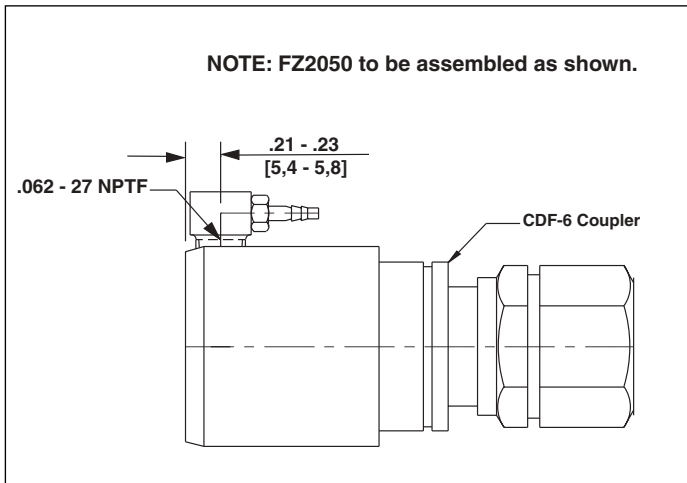

Figure 7
2. In applications where machining chips, cutting fluids and coolant are present, it is recommended to use the optional air blowoff fittings. The FZ2050 fittings attach to the end of the female auto coupler nozzle as shown in Figure 7. After assembly, the nozzle sleeves should be rotated so that the air fittings engage into the clearance notch on the MPA/WPA receiver. A flexible .125 ID. air line can be inserted over the barbed portion of the air fittings. The air lines should be routed inline with the coupler motion. An air manifold or fixed connection fittings can be mounted near the face of the auto coupler actuator. Be certain to leave enough air line length to allow full travel of the coupler nozzles. The location of the air manifold or fittings should be positioned to help prevent the nozzle sleeves from rotation out of position into the receiver.